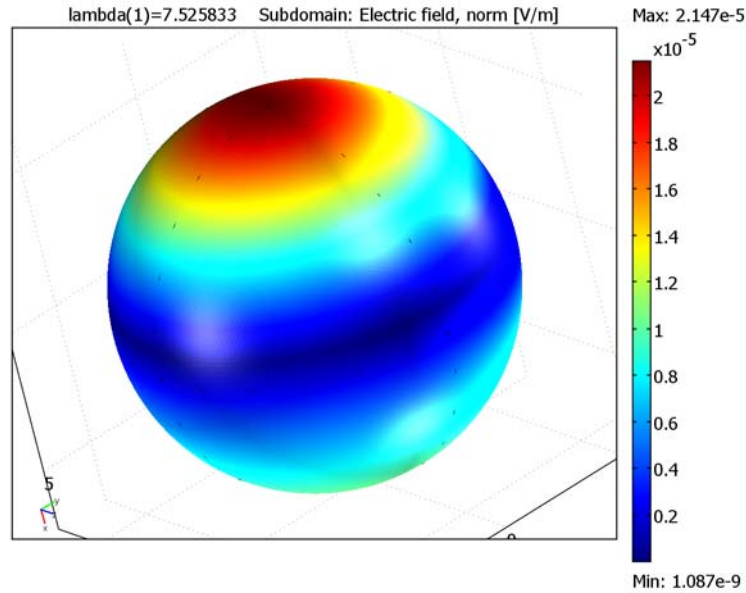

Figure 2-8: The norm of the electric field for the fundamental tone.
- 1 To create the plot in Figure 2-8, begin by opening the **Plot Parameters** dialog box from the **Postprocessing** menu.